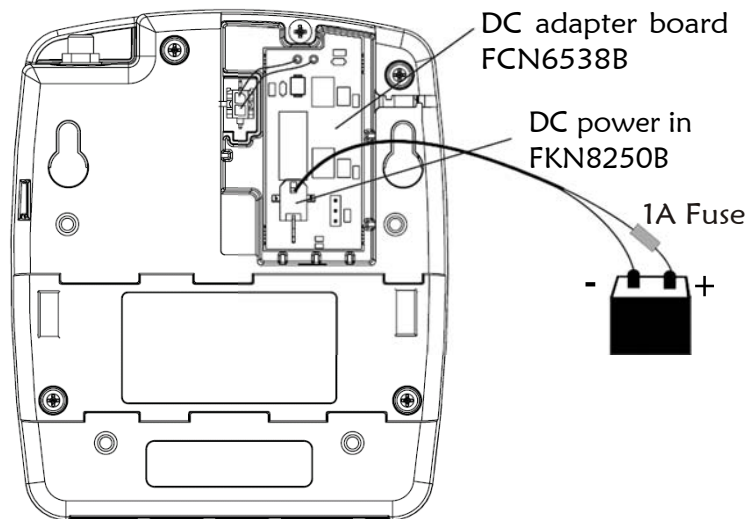

Figure 11
2. Connect the DC Adapter board (FCN6538B) to the DC power input connector on the back of the unit (Figure 11).